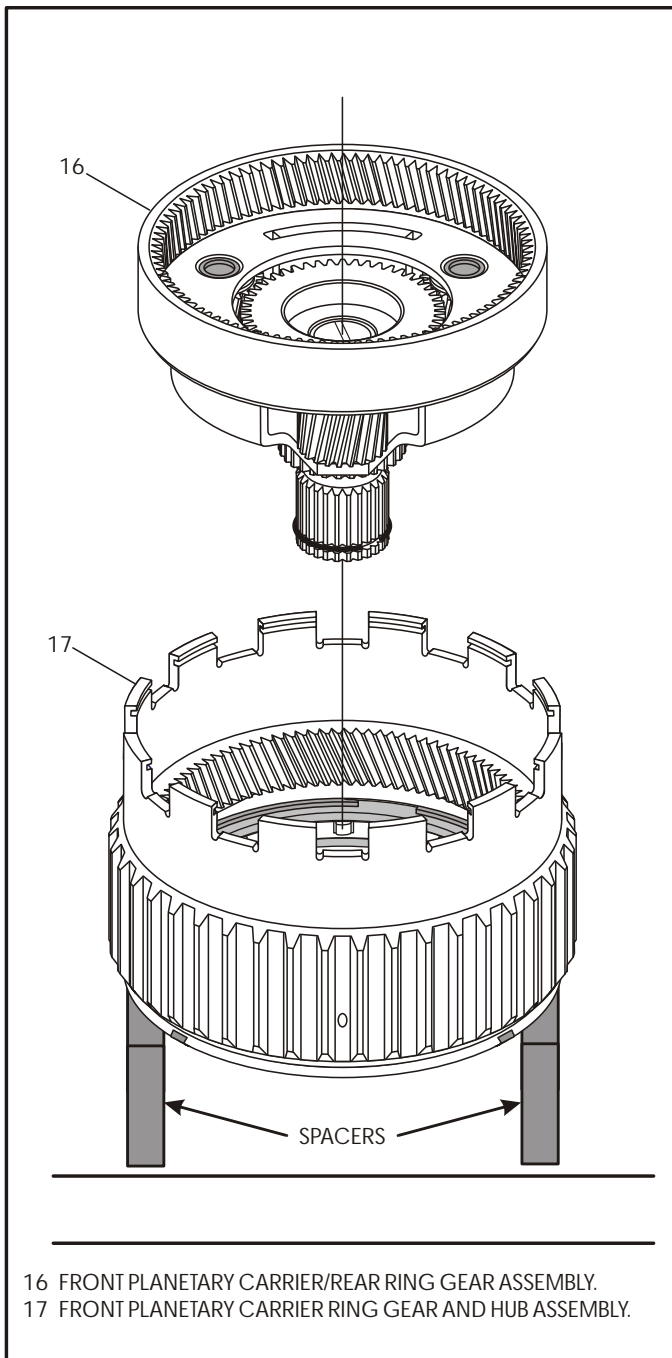

Figure 96
- Place the pre-assembled ring gear and hub assembly on flat work surface with some type of spacers below ring gear to allow the shaft of the sun gear to protrude through ring gear. Refer to Figure 96.
- Install the pre-assembled front planet and sun gear assembly into front ring gear by rotating into position, as shown in Figure 96, until fully seated